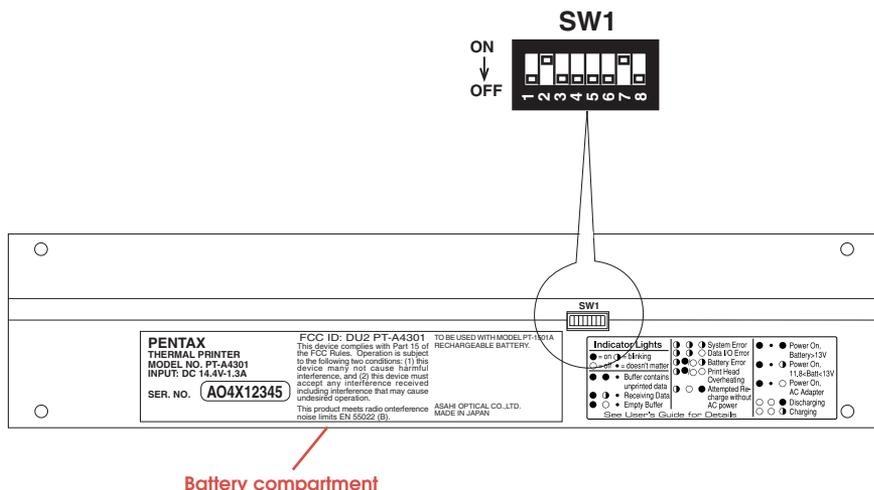

FIGURE 8. Checking the printer's DIP switches.
- 2 Find the set of eight DIP switches marked SW1 on the bottom of the printer. See Figure 8.
At the factory, DIP switches 1, 3-6, and 8 are set in the OFF position. Switches 2 and 7 are set in the ON position. Figure 8 shows the factory settings.